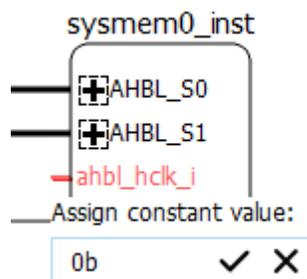

Figure 2.67. Dialog Box of Assigning Constant Value to an Input Pin
- b. A small dialog box appears (Figure 2.67). Enter the desired value. To erase the value and start over, click X. For all buses (more than one pin), the format is hexadecimal. Make sure the value fits the number of pins in the bus. For example, a 3-pin bus can accept 0-7, but not 8.